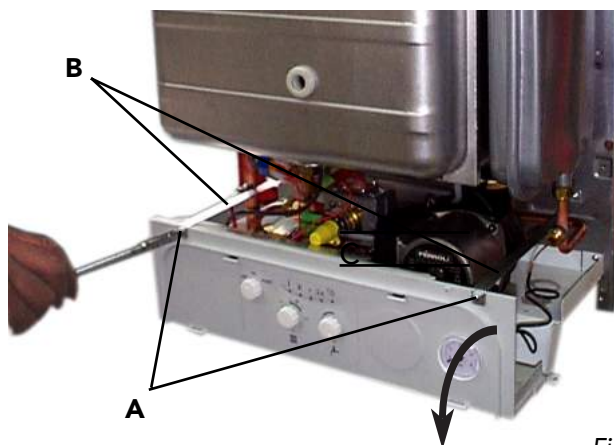

Fig. 34
7.03 To lower the control panel (fig. 34)
- Remove the two fixing screw (fig. 34) "A"